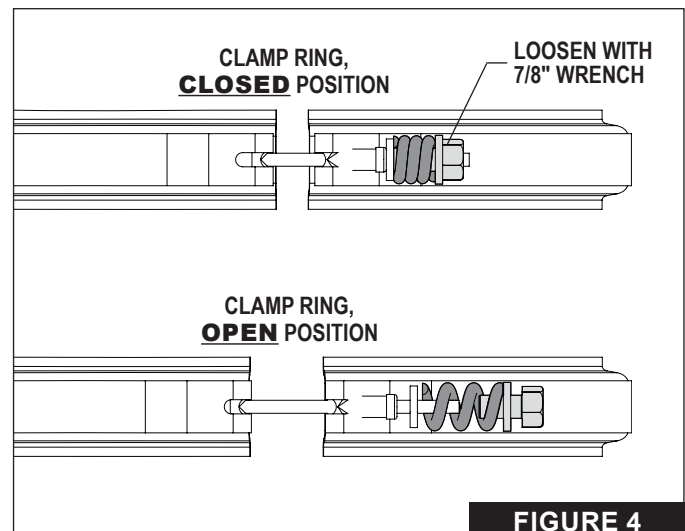

FIGURE 4
- c. Stand clear of the filter and wait until all pressure is relieved. **Pressure gauge must read zero (0) psi.**
3. Using a 7/8-inch wrench, loosen the clamp barrel nut, allowing the spring coils to decompress. See **FIGURE 4**.